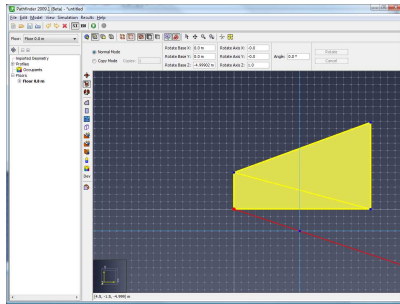

Figure 121. Base point of rotation
- The first specifies the base of rotation (Figure 121).